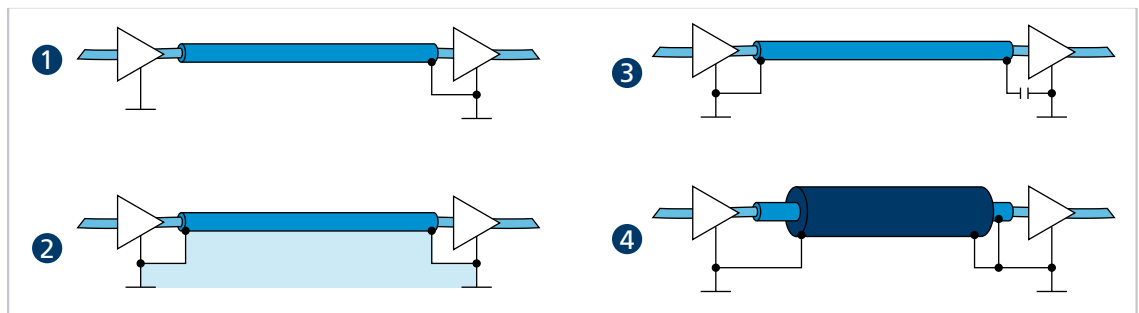

Fig. 14: Various possibilities for the shield connection
- ▶ Lay the motor phases in a shield, separate from the sensor or encoder signals, and connect on at least the motor side (see 1 or 2 in Fig. 14).
The sensor signals can optionally be laid with the motor phases in a shared cable/insulation hose using another outer braided shield. This outer braided shield must be connected at both ends (e.g., 4 in Fig. 14). A solution such as 2 in Fig. 14 is not functional in every case for this configuration. If this is not possible by means of a ground offset, establish the RF connection via specially suited capacitors (e.g., safety capacitors such as Y1/Y2/X1/X2, see 3 in Fig. 14). In this case, do not connect the shield multiple times except at the motor connection and controller side.